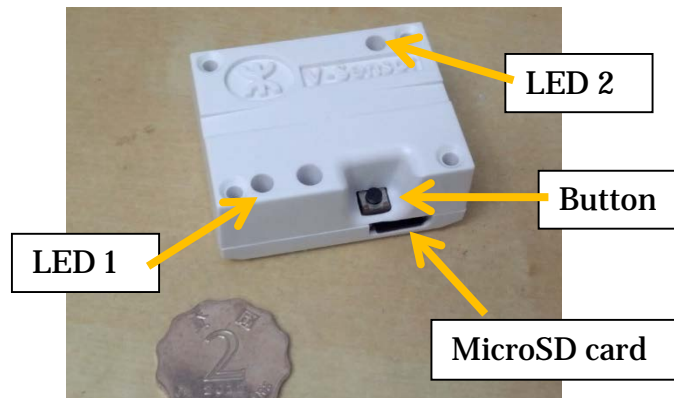

Figure 1 Hardware overview
5. Press and hold the button for > 7 seconds until one red LED blinks rapidly (see Figure 1 & Figure 2).